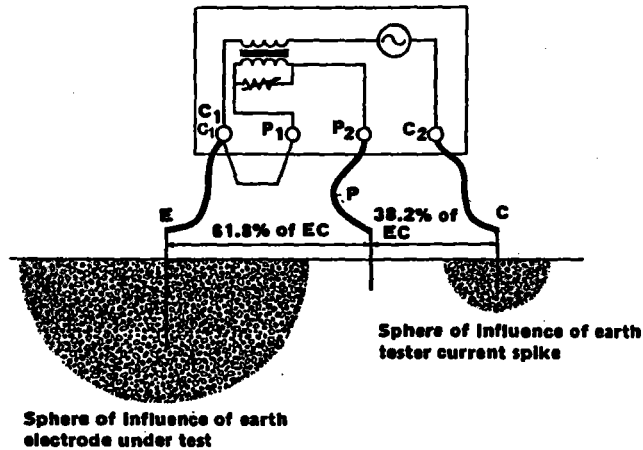

Figure 3-2. Positioning Ground Rods in Relation to the Electrode Under Test.
b. **TEST ELECTRODE SPACING.** Fall-of-potential or 3-point method is commonly used for single rod or small earth grids. This involves positioning current and potential rods C and P as shown in Figure 3-2 and connecting these by suitable cables to the earth tester to complete the current and voltage circuit. The tester is calibrated to read directly the resistance of the electrode E under test. To obtain a valid reading, the current rod must be properly located. Since both possess spheres of influence, the C2 rod must be sufficiently remote to prevent these areas from overlapping. Furthermore, the potential rod must lie between these two areas, preferably along a straight line between them.
In Figure 3-2, the dimensions of the spheres of influence of E and C are frequently unknown and to allow a safe margin the distance chosen for EC may be quite high. It is also necessary to experiment with the location of P.
1. Jumper terminals C1 and P1 and from them connect a lead to the electrode under test (E, figure 3-2). Keep this lead short as its resistance will be included in the test. However, separate leads may be used from terminals P1 and C1 to E, as in Figure 3-6, in which case the lead resistance will be excluded.